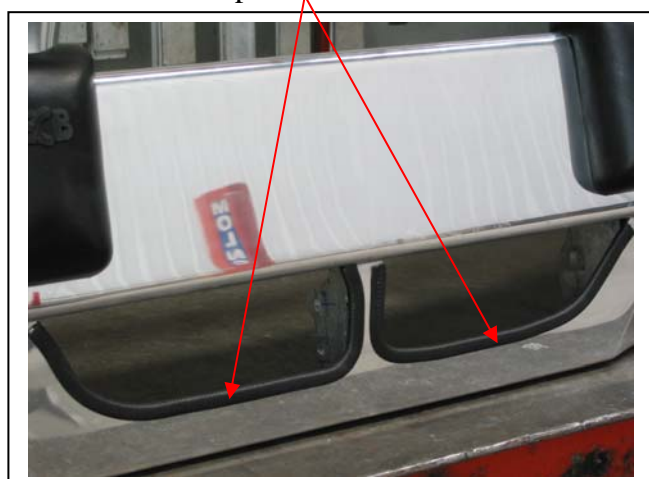

Figure 13
26. Fit 3mm clip lock trim (supplied) around airflow cut outs in protection bar. **See figure 13.**